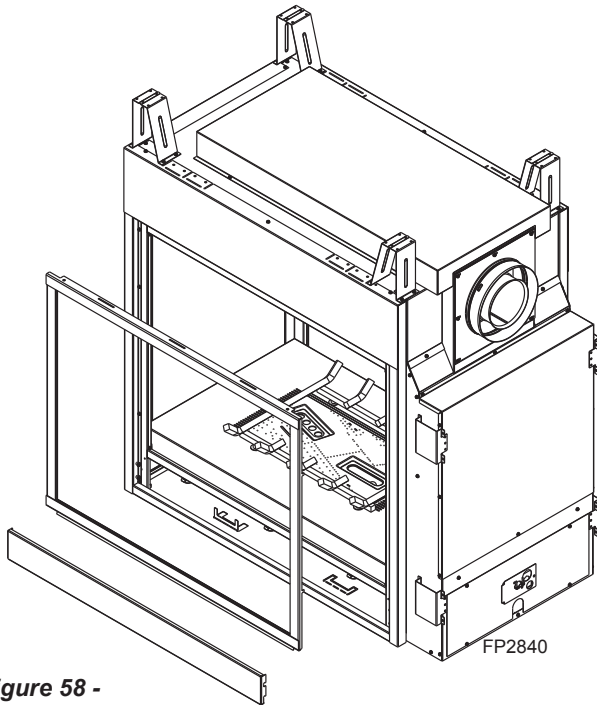

**Figure 58 -
2. Release two clamps (500 model has three clamps) on bottom of fireplace. *Figure 58*